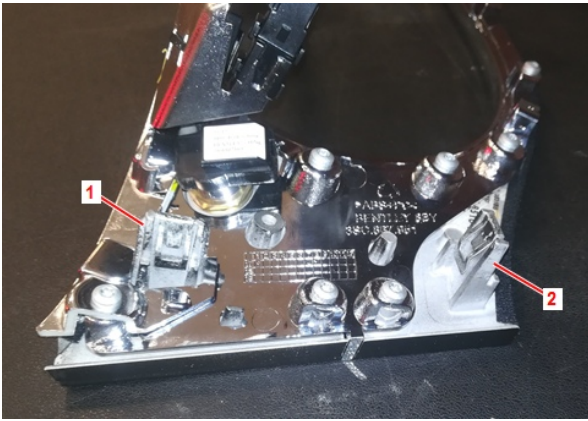

Figure 16
Note. The locator pin (1) is for adjusting the bottom of the fascia panel and locator pin (2) is for adjusting the top of the fascia panel. All other locator pins are not affected. See Figure 16.